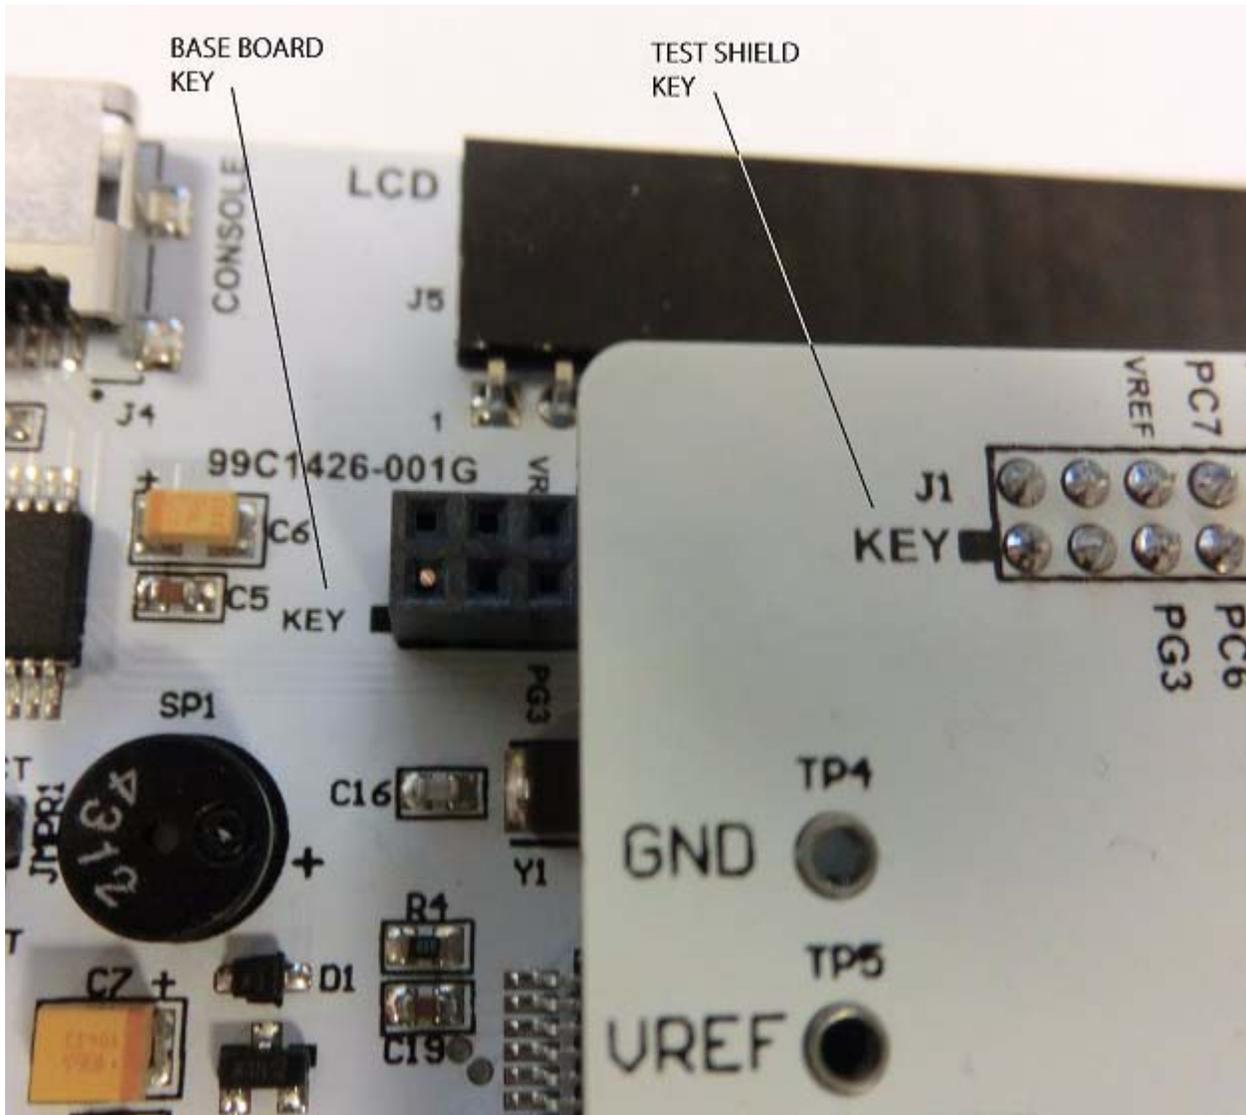

Figure 5. Key Alignment BaseB Shield
2. Click **OK**. The initial Tera Term dialog appears, as shown in Figure 5.